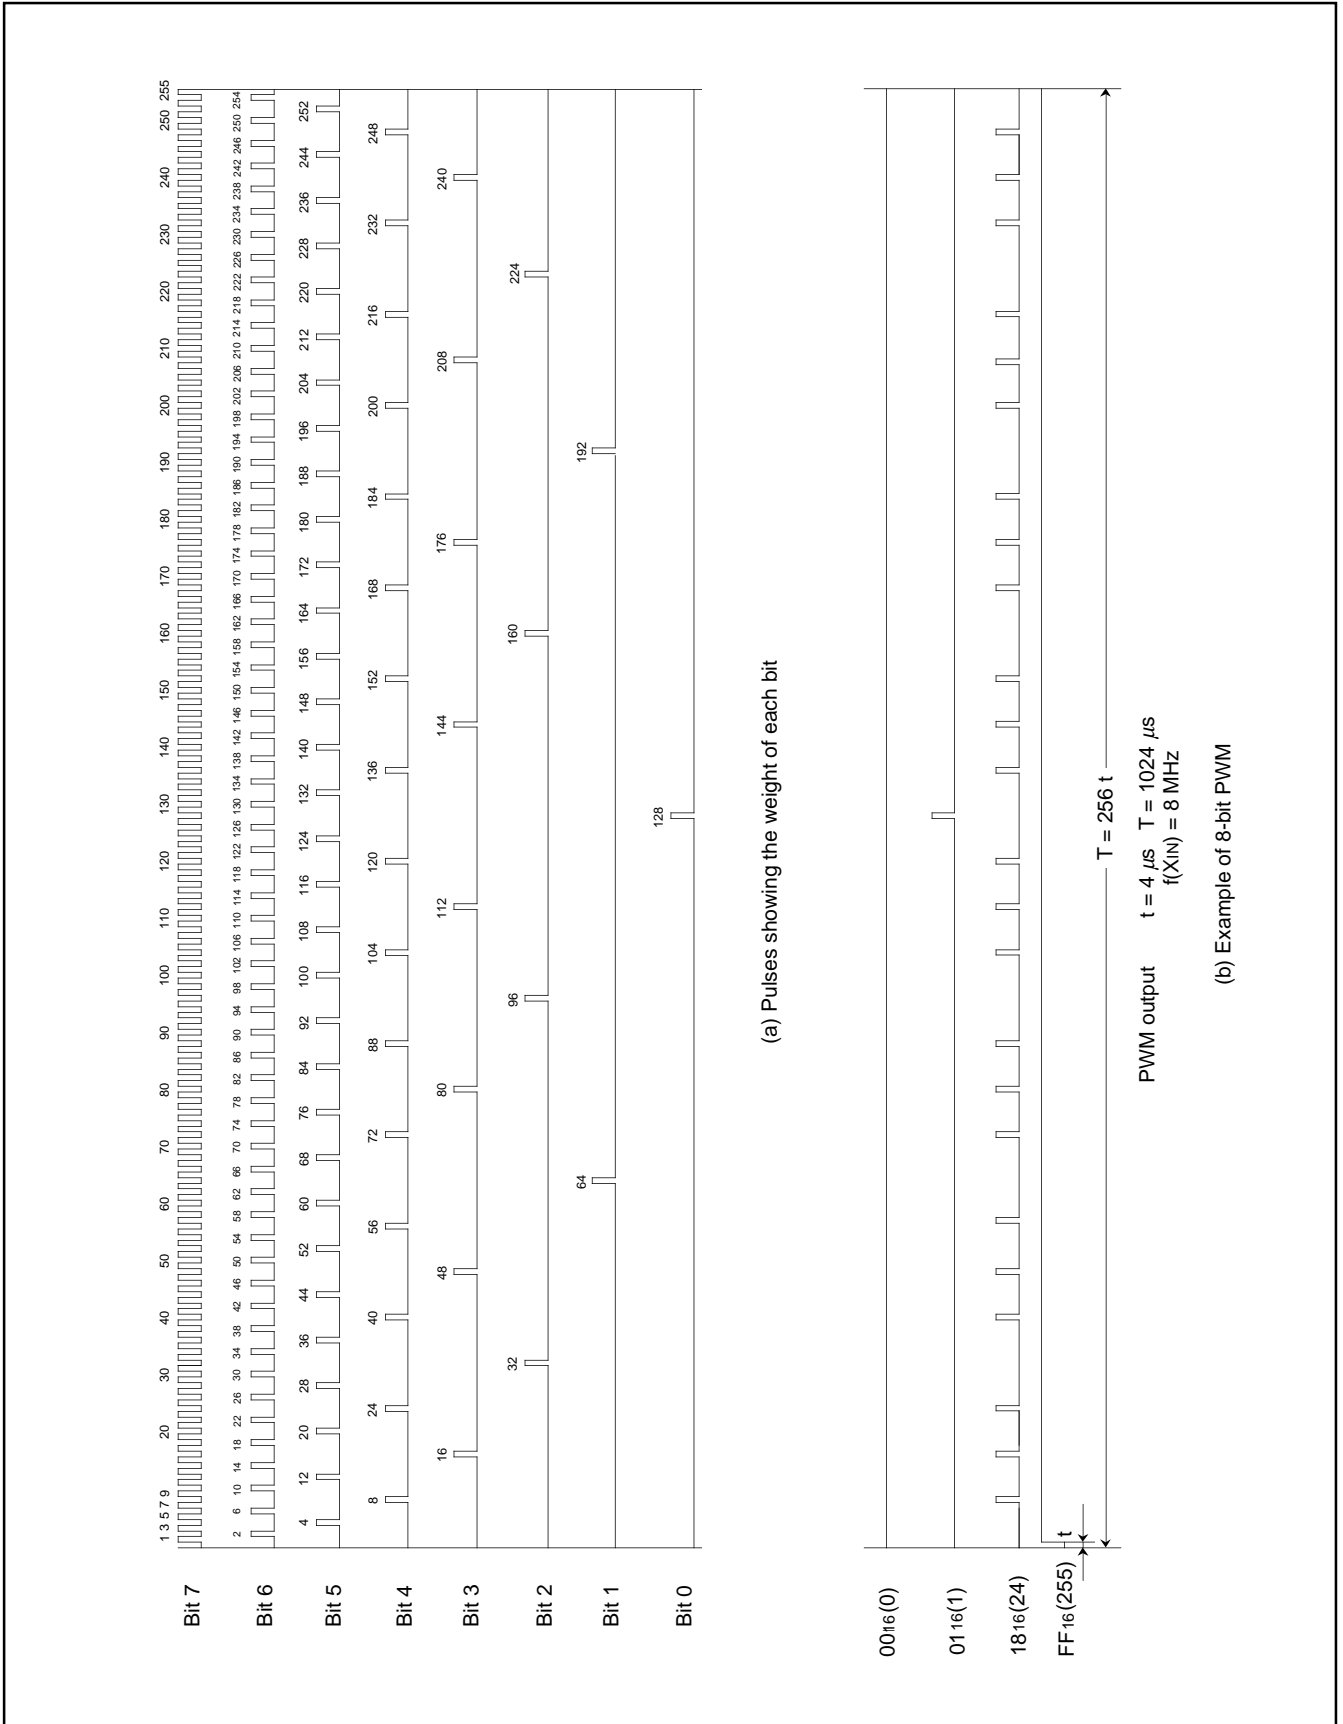

Fig. 23. 8-bit PWM Timing
Figure 23 shows the 8-bit PWM timing. One cycle (T) is composed of 256 (2^8) segments. The 8 kinds of pulses, relative to the weight of each bit (bits 0 to 7), are output inside the circuit during 1 cycle. Refer to Figure 23 (a). The 8-bit PWM outputs waveform performed a OR operation of pulses corresponding to the contents of bits 0 to 7 of the 8-bit PWM register. Several examples are shown in Figure 23 (b). 256 kinds of output (HIGH area: 0/256 to 255/256) are selected by changing the contents of the PWM register. A length of entirely HIGH cannot be output, i.e. 256/256.
(4) Operating of 14-bit PWM